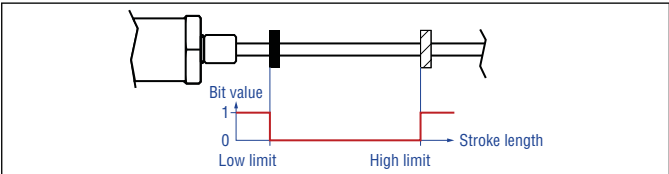

Fig. 57: Switching points for R-Series V PROFINET with linear profile
- Sensor status 2:** This module indicates when a high limit is exceeded or a low limit is not reached. The switching points mark the beginning and the end of a work area (Fig. 57). According to Fig. 58, the status of the switching points is displayed via bits 0 and 1 of this module.